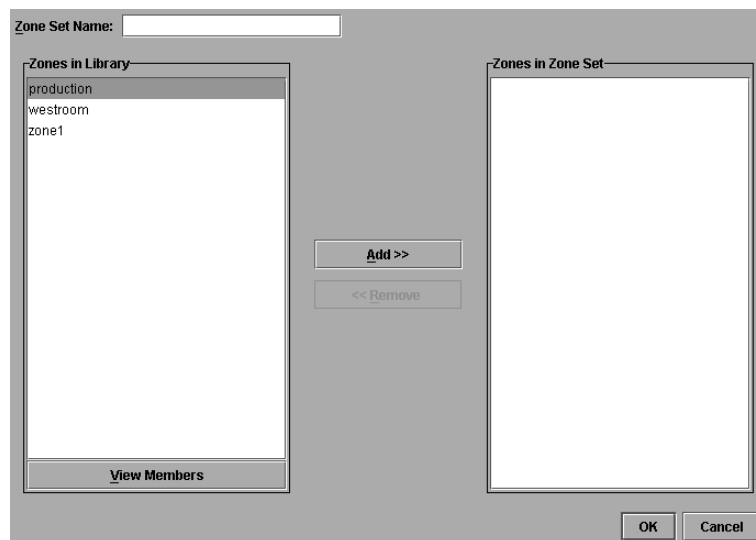

Figure 64: New Zone Set dialog box
3. Choose **File > New**. The **New Zone Set** dialog box displays (Figure 64).